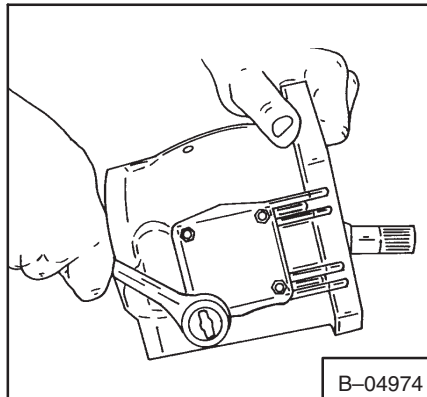

**Fig. 3-131** Installing O-Ring
5. Install a new O-ring in the groove (Fig. 3-131).